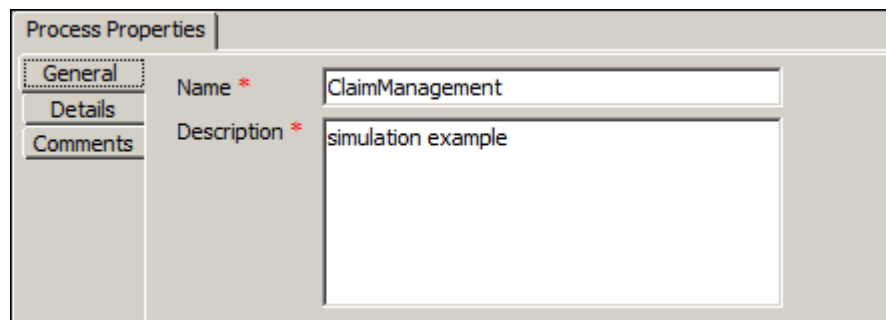

Figure 4: Viewing Properties of Entire Process Model
- Click the **Process Properties** tab in the Bottom Pane. It displays the properties for the entire process model in the *Process Properties Panel* in the Bottom Pane (see Figure 4).